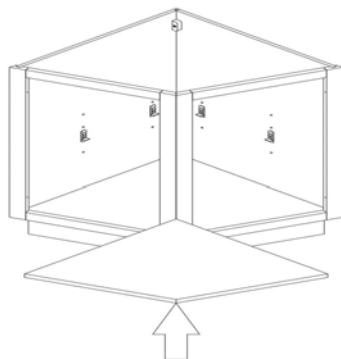

figure 7
5. **Installing the shelf clip and put the shelf into the cabinet(Figure7).**